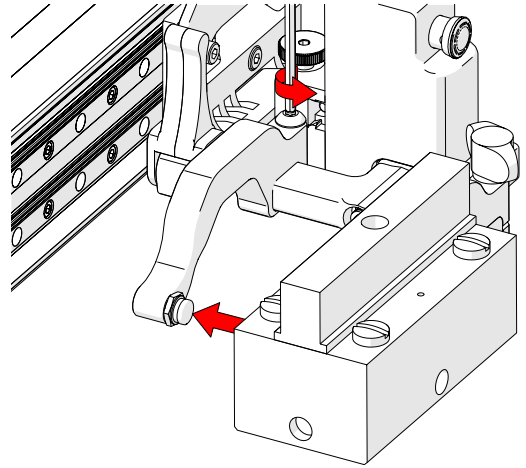

Fig. 194 - Adjust inner arm
4. Loosen the arm clamp screw (Fig. 194).
5. Place the wedge on the pivot button of the inner probe holder arm (Fig. 194).